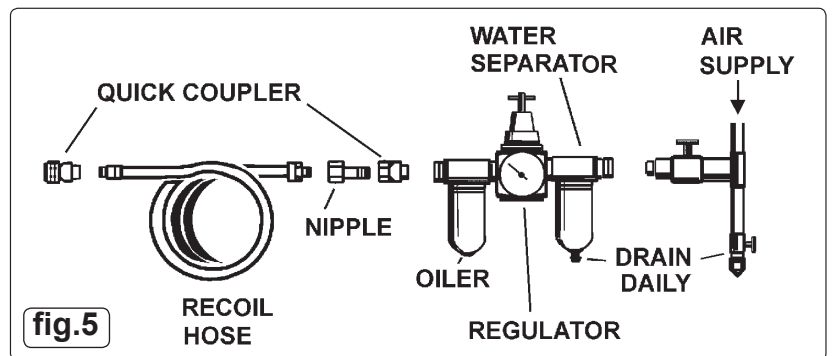

fig.5
- 4.6. Connect the workshop air supply.** Recommended hook-up procedure is shown in fig.5 below.